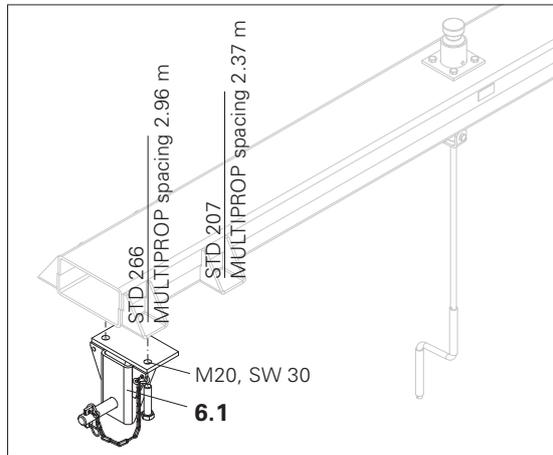

Fig. A2.11
(Fig. A2.11)
1. Remove both supports (6.1) from the Lifting Traverse. Hex. bolt and nut M20, SW 30 (Fig. A2.11).